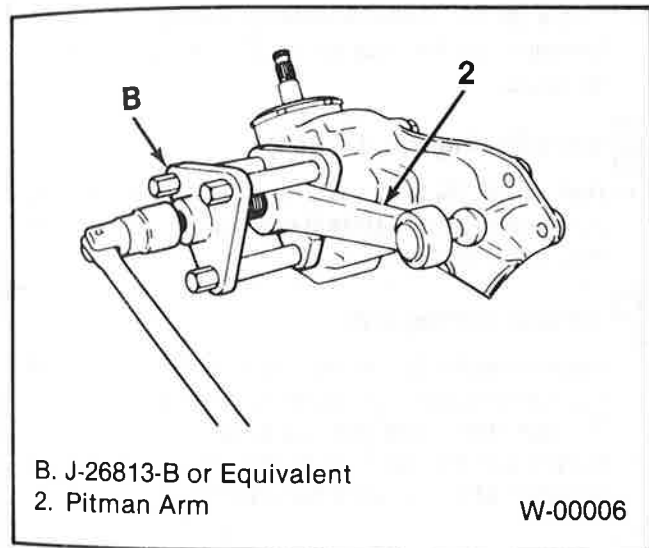

Figure 3. Removing Pitman Arm
5. Pitman arm (2), using J-26813-B tool, or equivalent (figure 3).